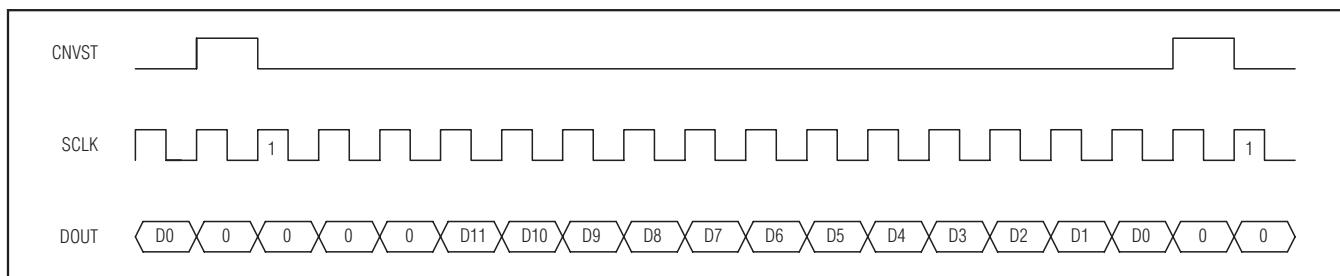
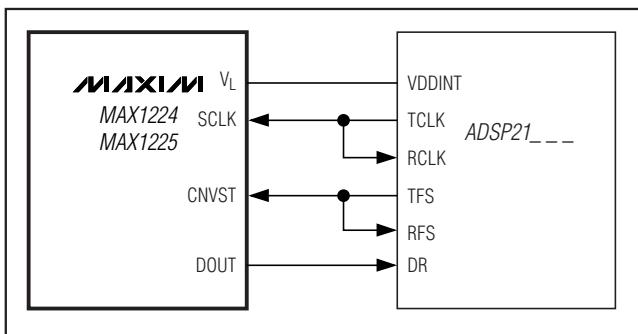

Figure 17. DSP Interface—Continuous Conversion
Figure 19. Interfacing to the ADSP21_--
The MAX1224/MAX1225 can also be connected to the TMS320C54_ by using the data transmit (DX) pin to drive CNVST and the CLKX generated internally to drive SCLK. A pullup resistor is required on the CNVST signal to keep it high when DX goes high impedance and 0001hex should be written to the DXR continuously for continuous conversions. The power-down modes may be entered by writing 00FFhex to the DXR (see Figures 17 and 18).
The MAX1224/MAX1225 can be directly connected to the ADSP21_ family of DSPs, Inc. Figure 19 shows the direct connection of the MAX1224/MAX1225 to the ADSP21_. There are two modes of operation that can be programmed to interface with the MAX1224/MAX1225. For continuous conversions, idle CNVST low and pulse it high for one clock cycle during the LSB of the previous transmitted word. The ADSP21_ STCTL and SRCTL registers should be configured for early framing (LAFR = 0) and for an active-high frame (LTFS = 0, LRFS = 0) signal. In this mode, the data-independent frame-sync bit (DITFS = 1) can be selected to eliminate the need for writing to the transmit-data register more than once. For single conversions, idle CNVST high and pulse it low for the entire conversion. The ADSP21_ STCTL and SRCTL registers should be configured for late framing (LAFR = 1) and for an active-low frame (LTFS = 1, LRFS = 1) signal. This is also the best way to enter the power-down modes by setting the word length to 8 bits (SLEN = 1001). Connect the VL pin to the ADSP21_ supply voltage when the MAX1224/MAX1225 are operating with a supply voltage higher than the DSP supply voltage (see Figures 17 and 18).